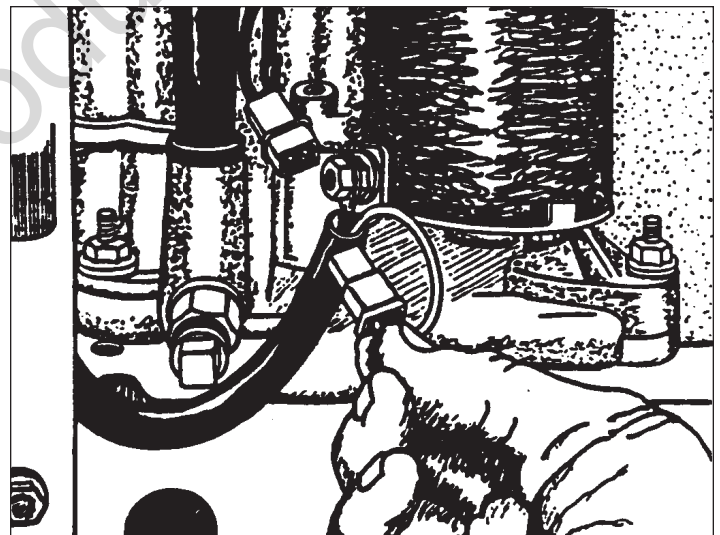

Figure 22
- Connect the electrical circuit at the rear of the engine (Figure 22). NOTE: Typical Briggs engine pictured.